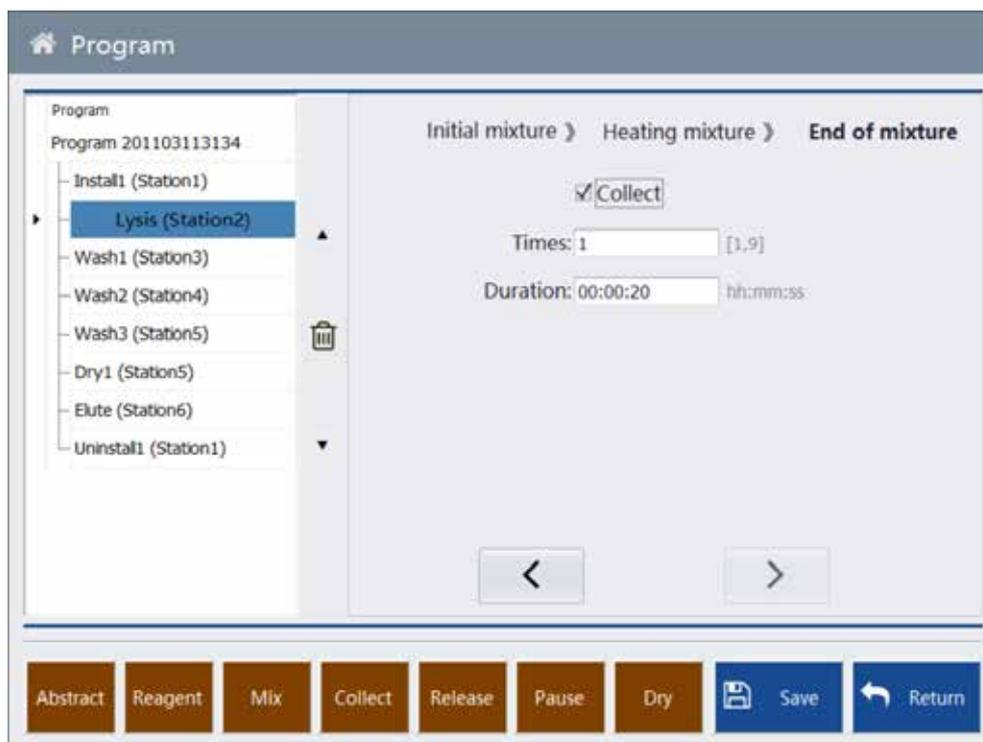

Figure 4-8-3 End Mixing
**End Mixing:** shows the frequency and time of collecting magnetic beads, as shown in Figure 4-8-3